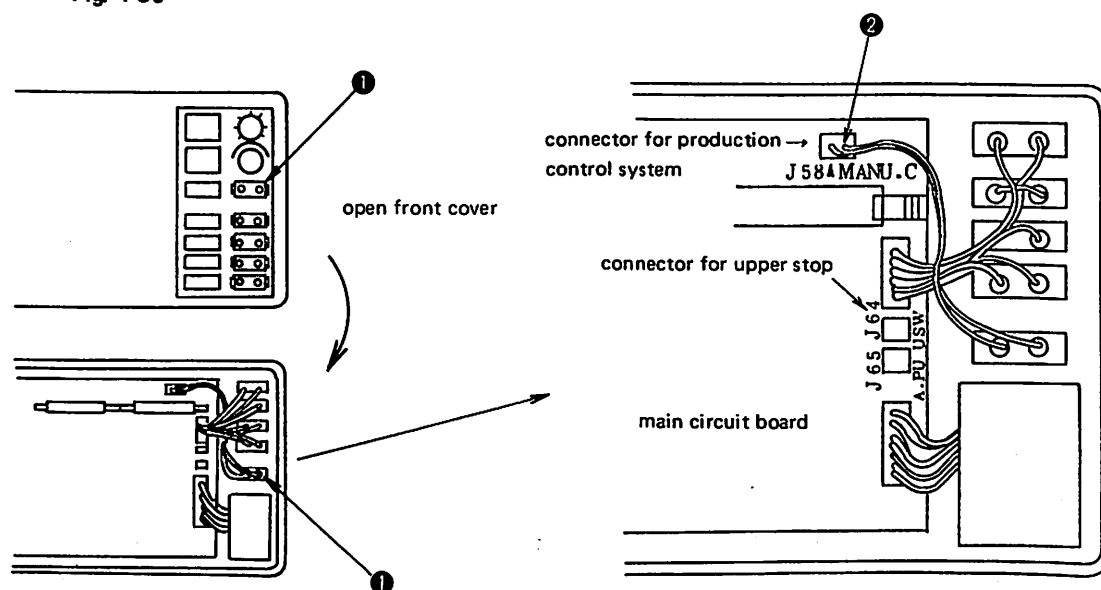

Fig. 4-31
Connect J58 MANU.C on the main circuit board to connector ❶ as shown in Fig. 4-31 (this is how the machine is wired at the time of factory shipment) and also connect connector ❶ to an external cable to make the production control system usable. When the wiring is done this way, a signal is output at the time of thread trimming.
When connector ❷ in Fig. 4-31 is connected to J64 USW on the main circuit board, and the special order upper stop switch is connected to connector ❶, the needle is stopped in the upper stop position without thread being trimmed during the sewing operation.
- ❶ Fix upper stop switch A in place with the wood screws that come packed with it.
- ❷ Next, fix the switch cord in place with 4 staples.
- ❸ Connect the cable to connector ❶ in Fig. 4-31.